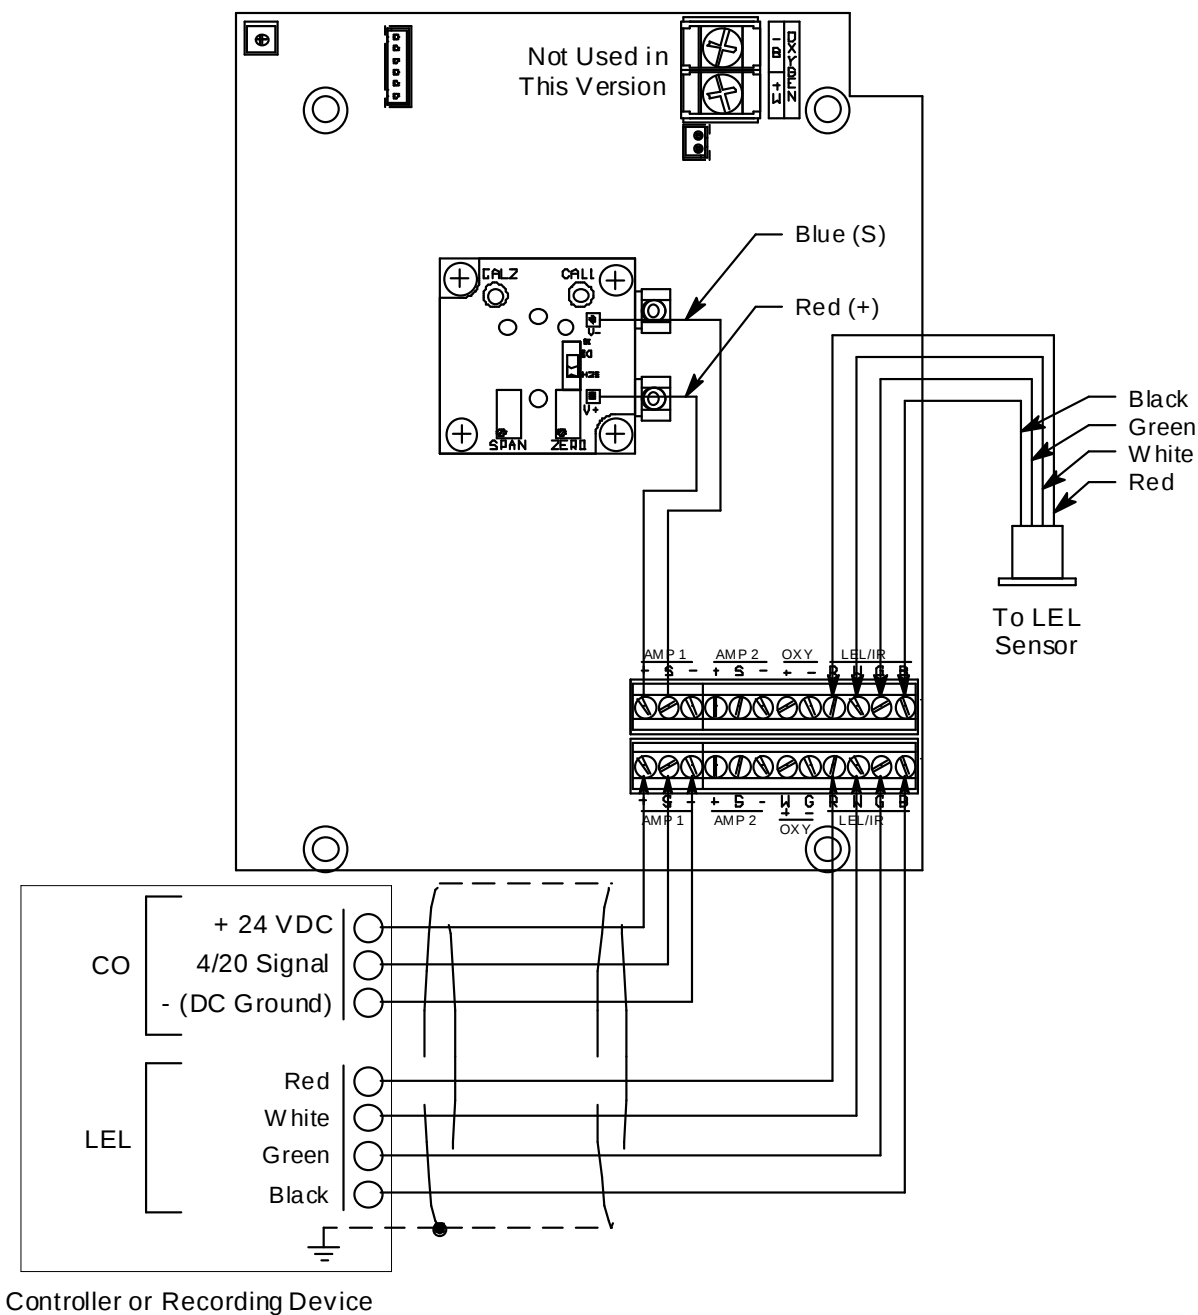

Figure 5: Wiring the Sample-Draw Detector to a Controller
5. Connect the cable to the sample-draw detector’s interconnect terminal strip as shown in Figure 5.
8. Connect the wires to the applicable detector/transmitter terminal strip at the controller as shown in Figure 5. Refer to the controller operator's manual and the controller detector head specification sheet for the 35-3001-08 for detector/terminal strip connections specific to the controller.